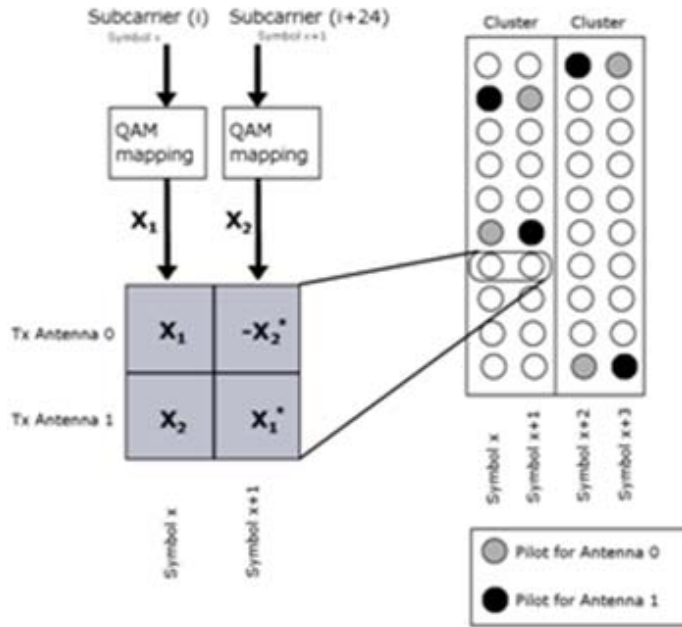
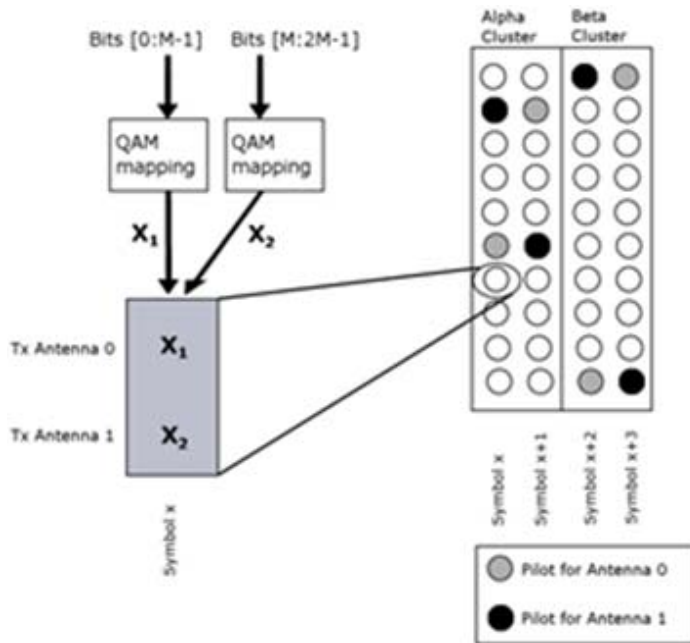

Figure 1: Space-Time Coding Diagram
Figure 2: Spatial Multiplexing
WiMAX MIMO, also known as Wave 2, supports space-time coding (STC) and spatial multiplexing (SM) in WiMAX signals. STC uses Alamouti scheme (Matrix A) to provide transmit diversity as shown in Figure 1. Spatial multiplexing is also referred to as MIMO and uses Matrix B, as shown in Figure 2. STC/MIMO is often used to indicate WiMAX MIMO mode.